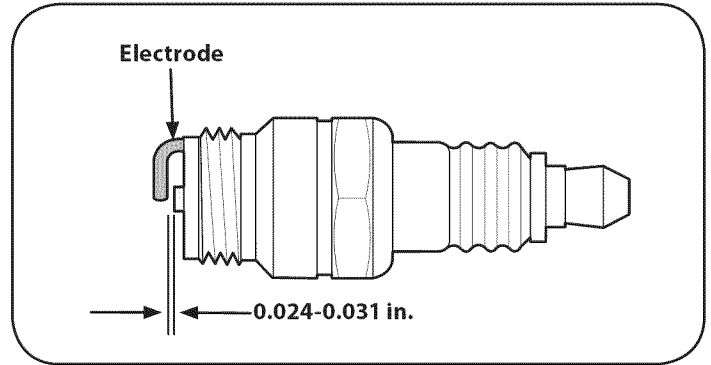

Figure 20
- Measure the plug gap with a feeler gauge. Correct as necessary by bending side electrode. See Figure 20. The gap should be set to 0.024-0.031 in.